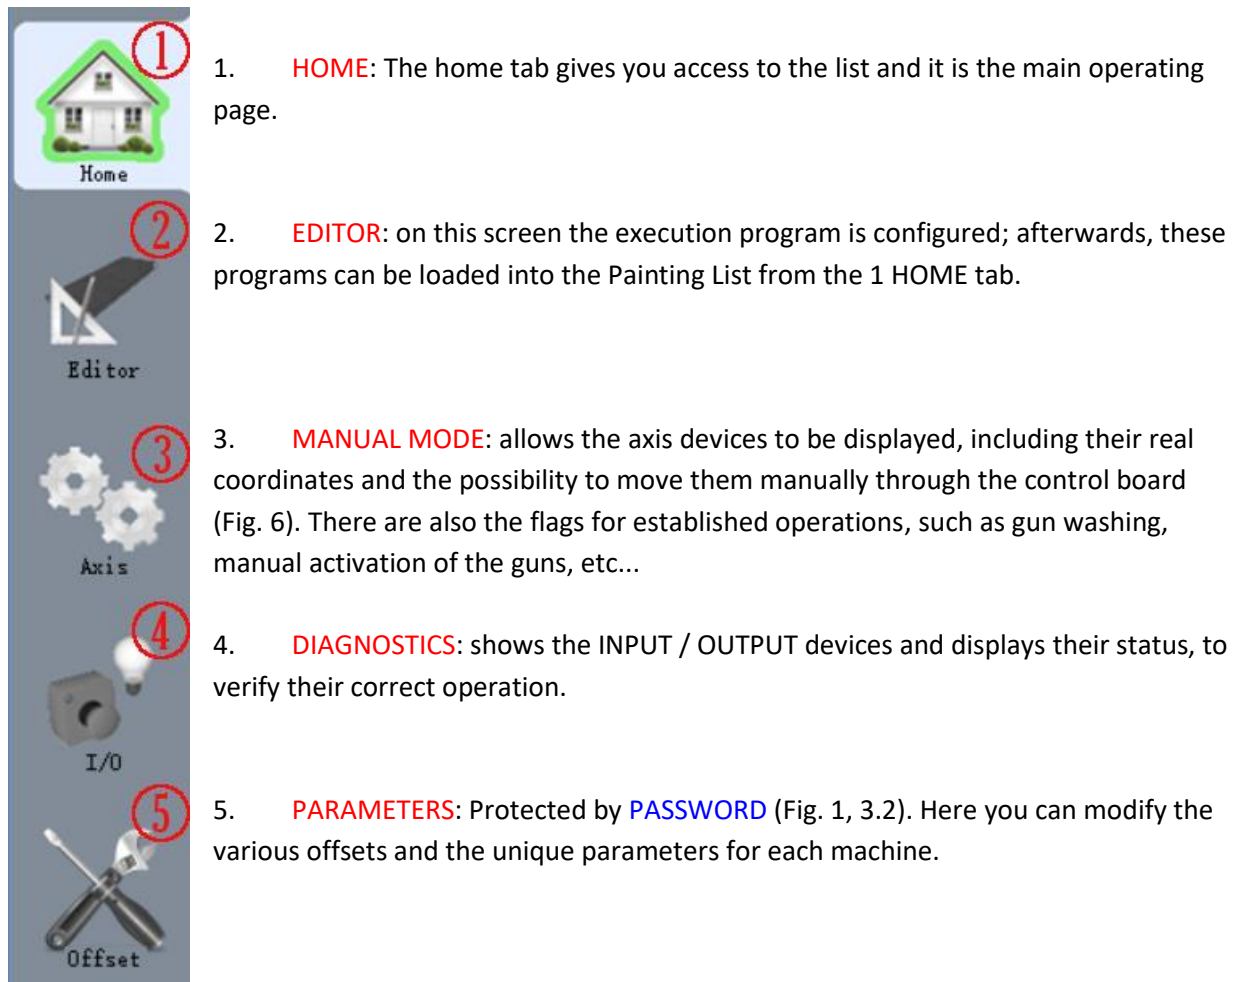

Fig. 2
In the main page on the left, see Fig. 2, there are also the buttons to change the page to the software, so that you can access all the available features.
- Name: pressing on this column, you can open the folder including all the programs, built through EDITOR Tab 4 (Fig. 2).
- Edit: By pressing the button, you can access the **EDITOR** Tab 4 (Fig. 2) to modify the program, if needed.
2. **ADD ROW**: by pressing the button, a window appears (Fig. 4); it allows you to choose the type of program to add to the execution list. Once it has been selected, the folder including the programs previously developed by **EDITOR** Tab 4, automatically opens (Fig. 2). After choosing the program, this is automatically added to the end of the execution list.